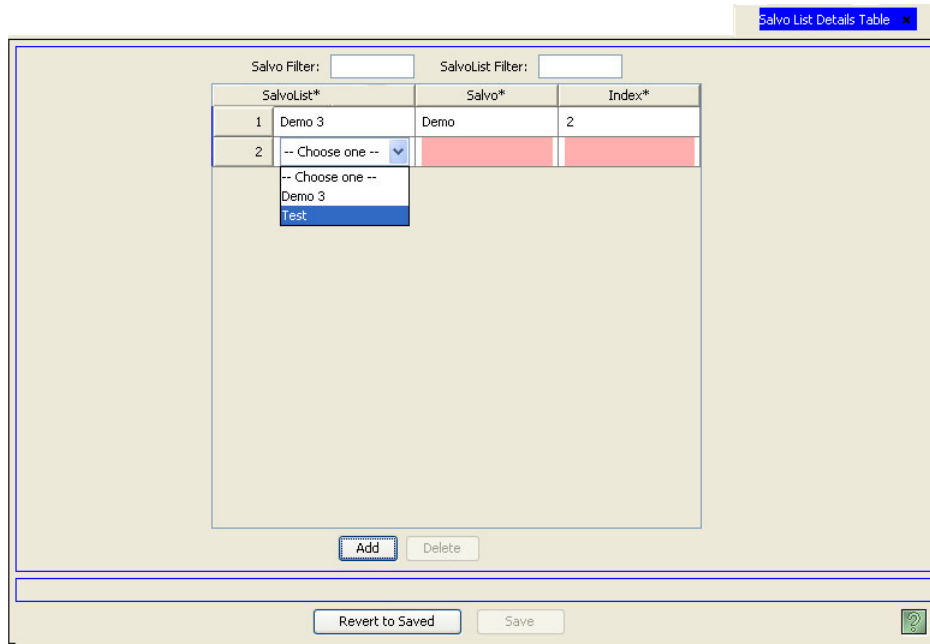

Figure 15-16. Salvo List Details Table
- 1 From the Navigation area, select the 'Views' pane and then 'Salvo List Details'. The 'Salvo List Details' table appears, as shown in Figure 15-16.